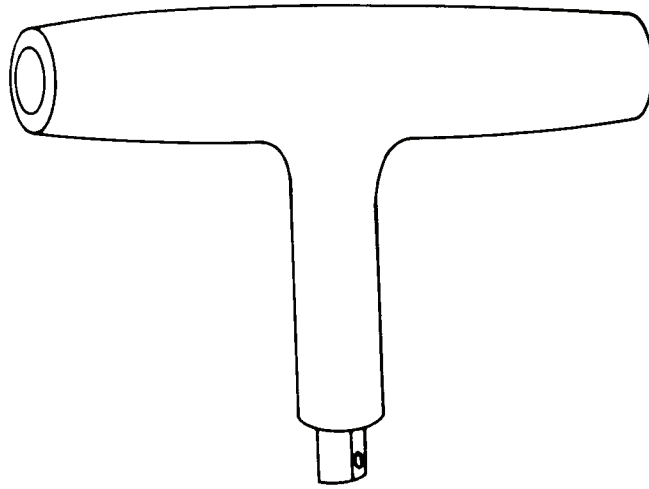

Figure 10. Type IV, class 1 torque wrench, tee handle, rigid case, ratcheting, audible signal, torque value set and sealed.
**Torque Wrench, Audible Signal, Tee Handle Preset** (figure 10). Note torque value setting on handle of TI. Gradually apply rotational force on handle of TI until sharp audible snap is heard. Stop applying force at this point.